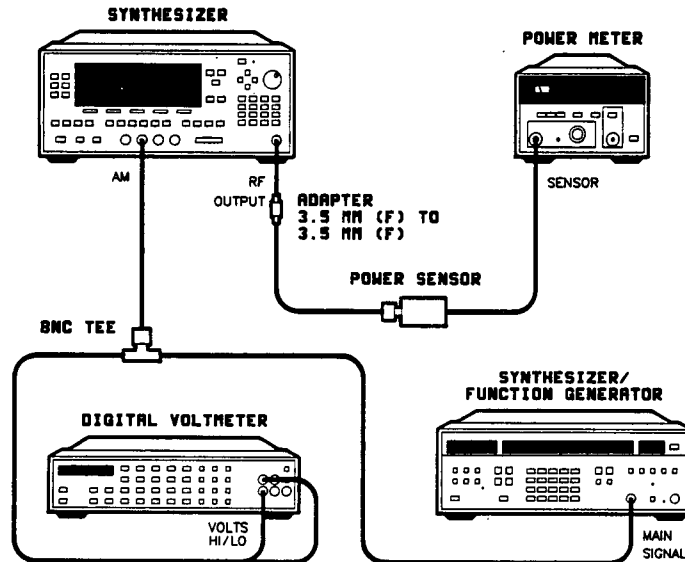

Figure 3-30. AM Accuracy Adjustment Setup
1. Turn on the instruments shown in figure 3-30 and let them warm up for at least one hour.
3. Connect the equipment as shown in figure 3-30.
21. Adjust A10R39, LIN AM CAL, for a 0.126 mW (4.00% relative) reading. See figure 3-30 for the location of A10R39.